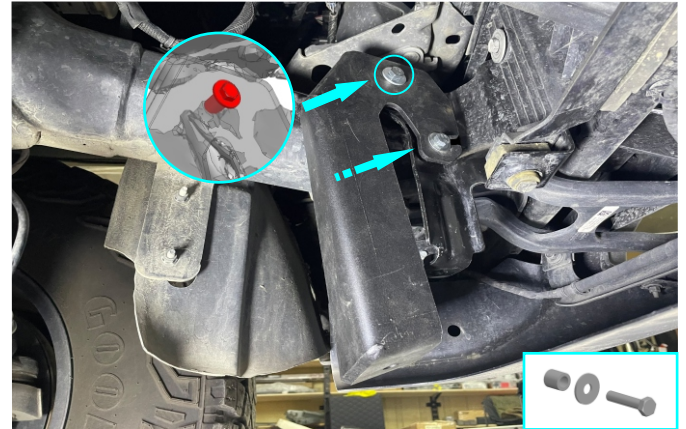

Fig. 9
9. Install left bracket for RAM 1500 TRX (item 4) as shown in fig.9 and secure it using bolt M8x40, spacer 15 mm and flat washer M8 (items E, J, G).